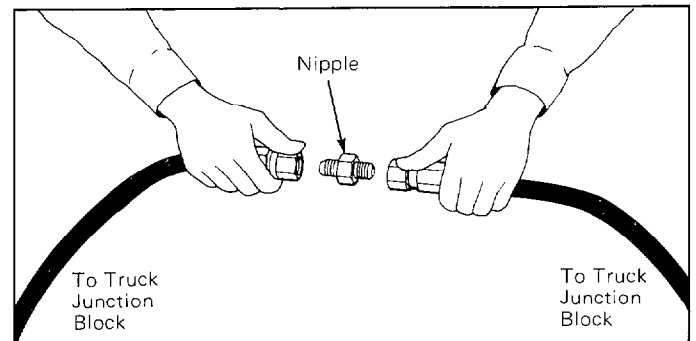

Figure 3. Connect the Two Hoses Together Using a Nipple
- a. Connect the open and close hoses together using a nipple as shown in Figure 3.